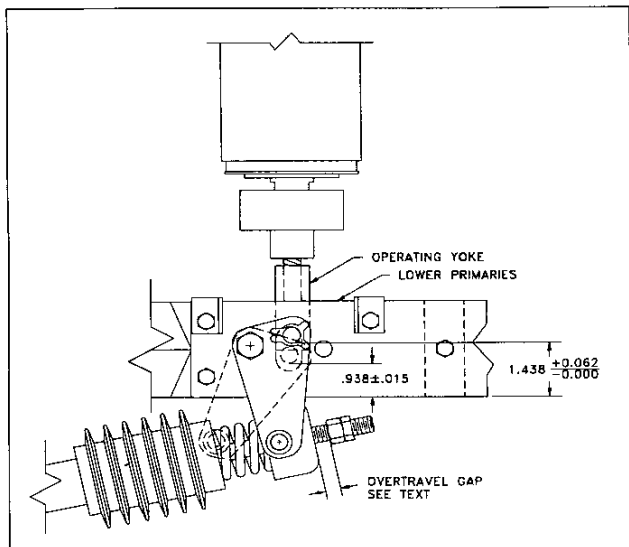

Figure 2. Operating Yoke Adjustments
the bottom of the lower main primary disconnect bars. See Figure 2.
- d. As explained in the description of the mechanism operation, when the breaker is closed a gap will exist between the contact loading spring yoke and the nut on the pushrod stud, Figure 2. With a new vacuum interrupter, this gap will be between 1/2 inch and 5/8 inch. As the contacts erode, the gap will reduce to about 3/16 inch.
(3) Primary Resistance Values
- Unscrew and remove the operating yoke at the lower end of the vacuum interrupter (Figure 2).